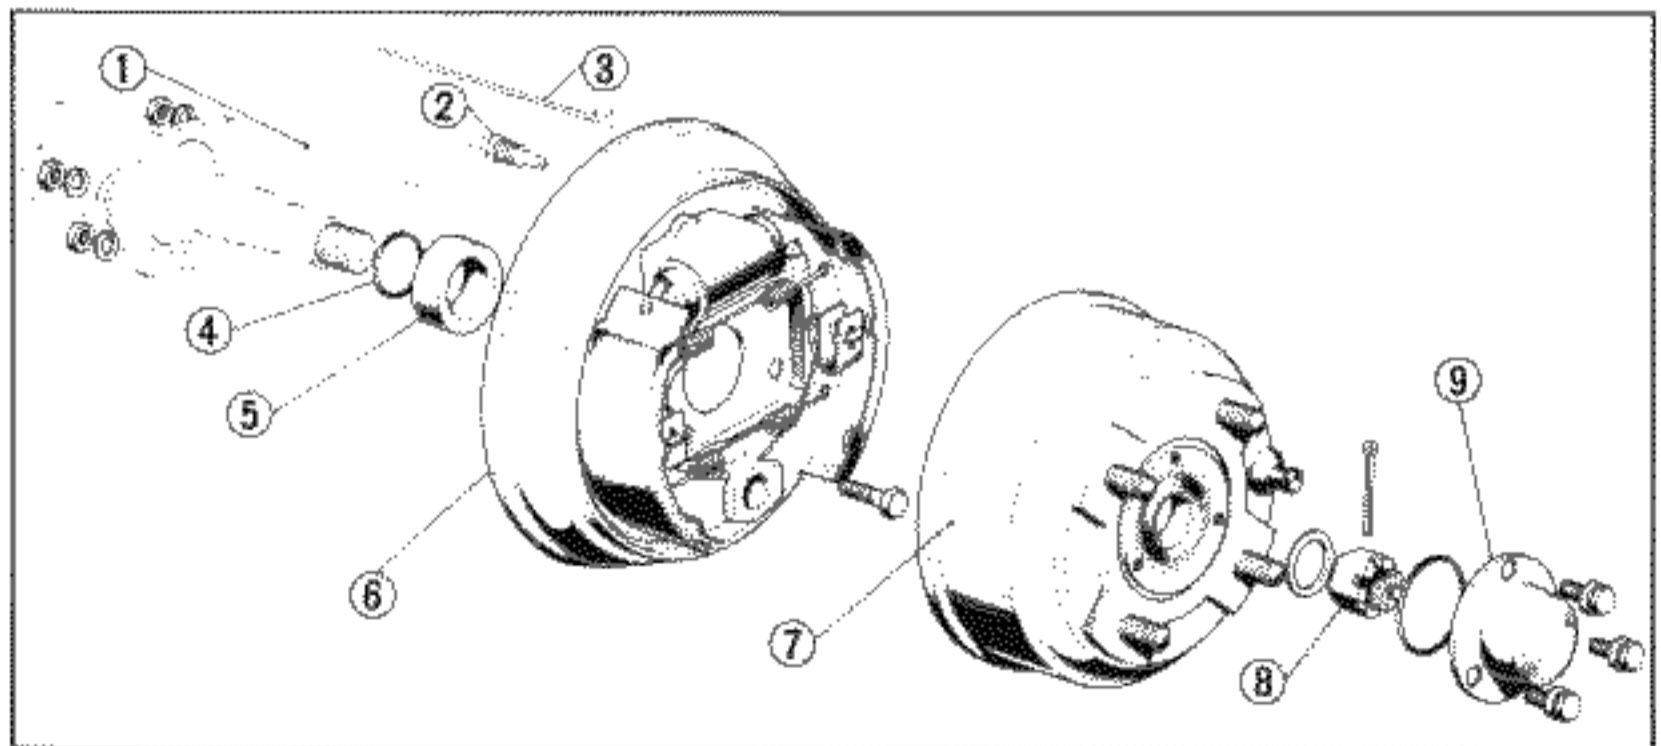

Fig. 12-5
- \* To install the rear brake, reverse the removal procedure. See Figs. 12-5 and 12-6 for the torque specifications.